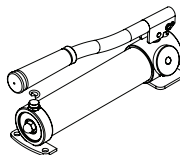

Figure 4 - Loosen vent screw counter-clockwise.
- Loosen vent screw counter-clockwise (Fig. 4).